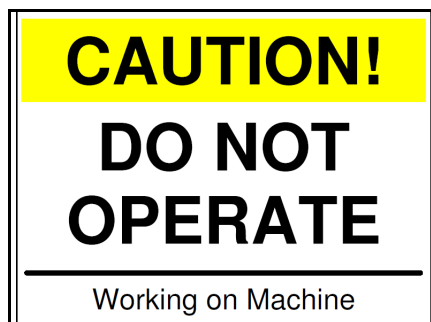

Figure 2-14: Caution Sign
6. Place the "Caution" sign on the monitor (see Figure 2-14).
3. Place the “Caution” sign on the monitor (Figure 2-14 on page 79).